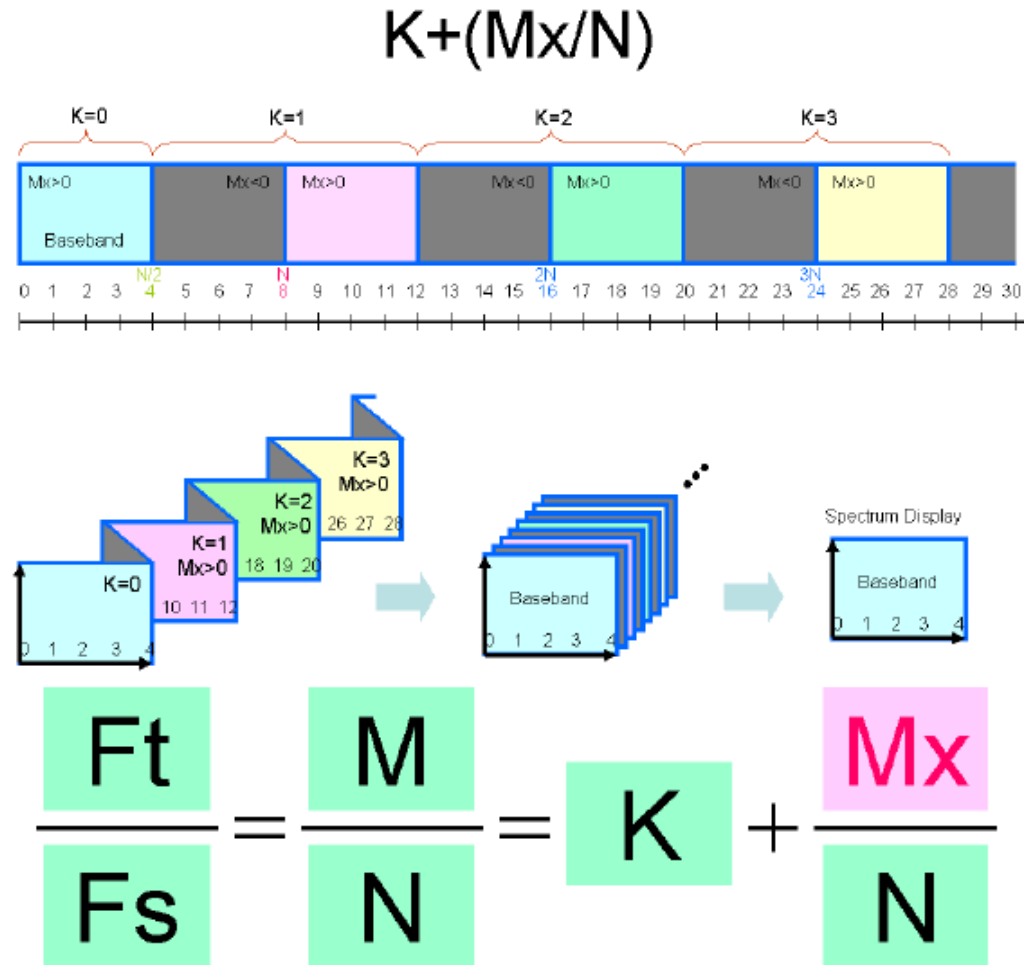

Figure 7: Coherent Equation vs Degenerated Spectrum
The coherent equation (1) is related to the degenerated spectrum as Figure 7. The point is the aliasing bin number M_x , which is between $-N/2$ and $N/2$. If $M_x>0$, then the signal is located in the front page. If $M_x<0$, then the signal is located in the back page. Consequently $|M_x|$ indicates where the aliased signal would fall in the baseband. When you make up your test condition with under-sampling, you may want to set up your spectrum appearance as you like. Usually F_t and N are settled at first so that you would have freedom to decide F_s and M_x . If you can control F_s , you can adjust M_x for your favorite location. You should keep in mind the relationship described in Figure 7. Generally speaking, a mixed signal tester must have at least two master clock domains. Probably the test frequency F_t would be based on one master clock domain. Then the sampling frequency F_s requires taking the other master clock domain for being precisely set up. Otherwise you could not settle your test condition coherently.